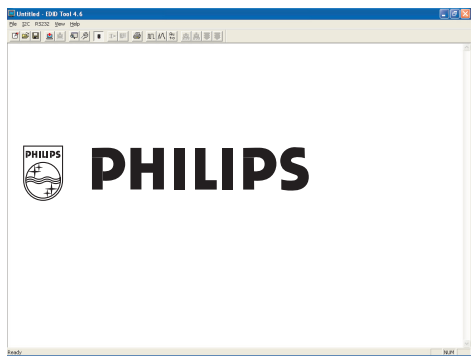

Fig. 7
4. Click OK button. The main menu appears (as shown in Fig. 7). This is for initialize alignment box.